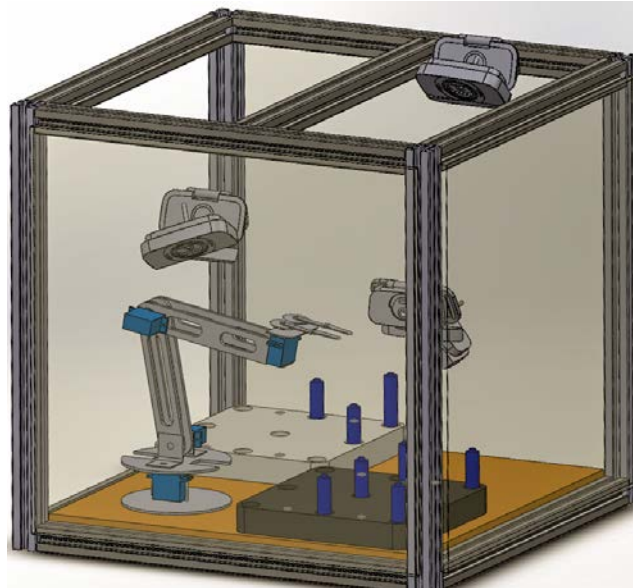

Figure 4 Three Cameras at three positions for different view angles.
- 2.3 In the play field, there are three cameras installed at three positions for different view angles as shown in Figure 4.